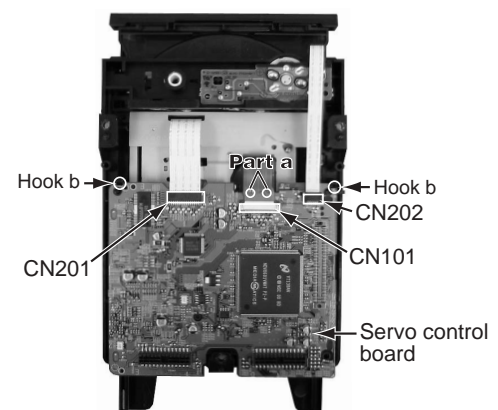

Fig.2-4
Please refer to "Fig.2-4" of "Disassembly method" for details.
2.1.4 Removing the servo control board (see Fig.2-4)